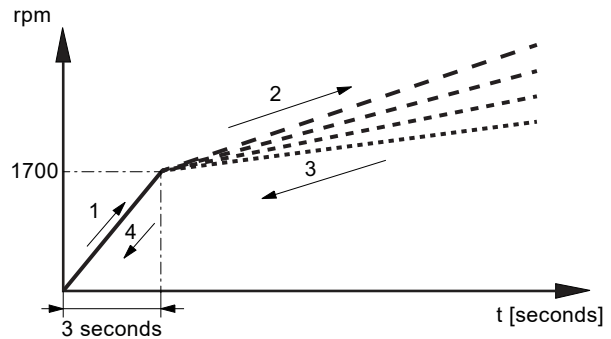

Fig. 20 Ramping up, BMS hp
1. Start the feed pump (1), and check that the inlet pressure (2) of the BMS hp pump (6) is higher than 0.5 bar (6" BMS hp) or 1.0 bar (8" BMS hp).
4. Ramp up the BMS hp pump according to factory settings. See fig. 20 (1).